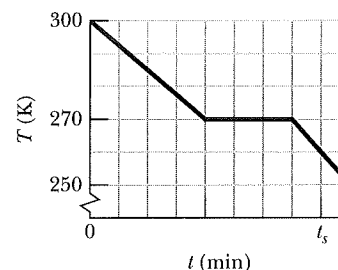

Fig. 18-32 Problem 30.
••30 A 0.400 kg sample is placed in a cooling apparatus that removes energy as heat at a constant rate. Figure 18-32 gives the temperature T of the sample versus time t ; the horizontal scale is set by $t_s = 80.0 \text{ min}$. The sample freezes during the energy removal. The